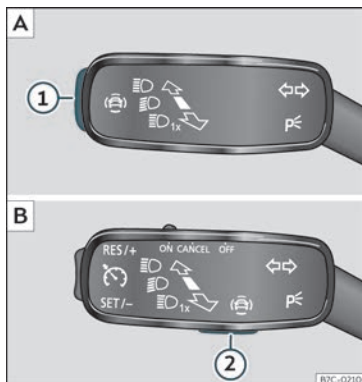

Fig. 62 On the turn signal and main beam lever: button for driver assistance systems (depending on versions).
- Press >>> **Fig. 62** **1** or **2** briefly to open the **Driving aids** menu.